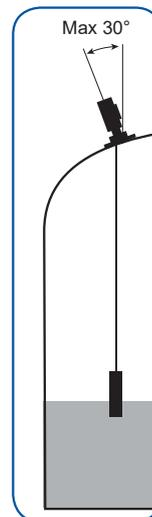
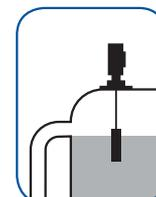

Figure 1
Figure 4a
1. Decide on the best location at the top of the tank. **Note: Above Max. water level** (figure 4a-4b) **and Max. 30° angle** (figure 1). Make sure that the float can go undisturbed all the way down to the bottom of the tank and not nearby inside staying or tubing.